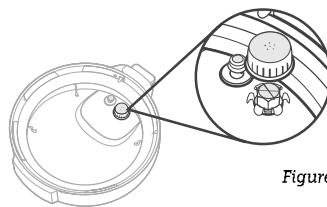

Figure 10.2
- a. Remove the anti-block shield by gripping it from either side, then pulling it up. **[Figure 10.2]**